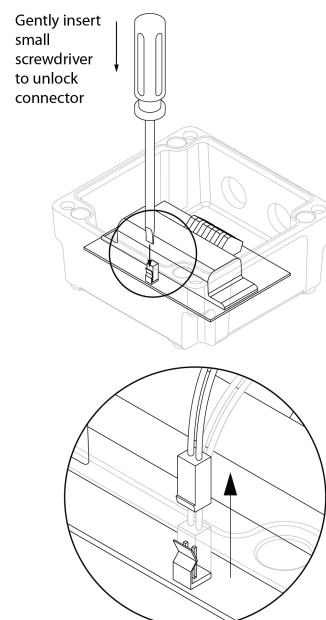

Fig 5 Unlatching the indicator assembly connector using a small screwdriver.
- A. Remove the indicator assembly by unscrewing the four captive 'A' screws. Lift the indicator assembly off the back-box and disconnect the two wires from the back-box using a small screwdriver to unlatch the connector locking mechanism as shown in Fig 5.